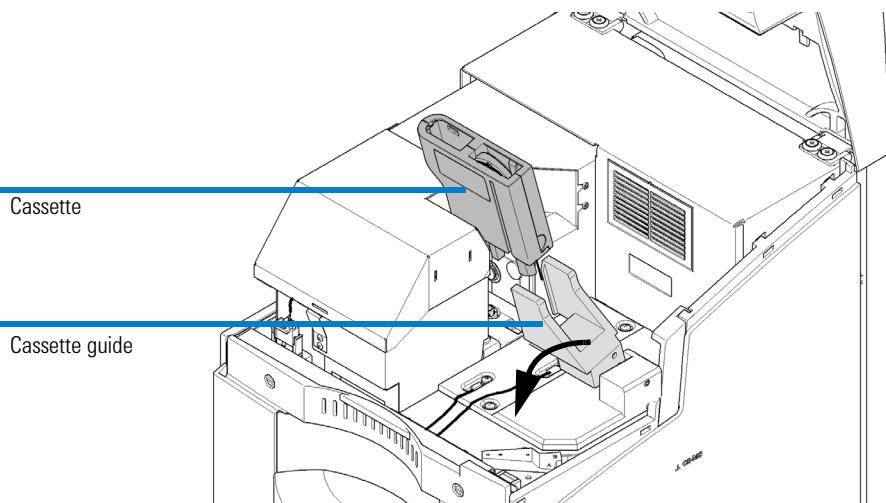

Figure 27 Removing the cassette
- 4 Carefully pull the cassette out of the cassette guide. See Figure 27 on page 136.